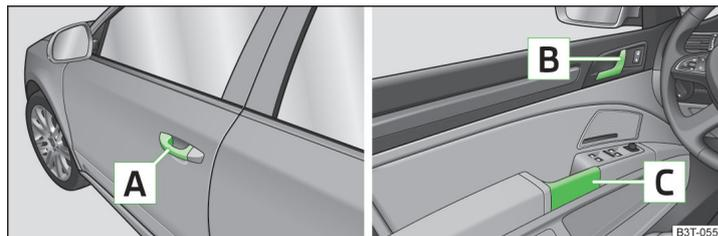

Fig. 33 Door handle/door opening lever
- Pull on door handle **A** » Fig. 33 on the door you wish to open.